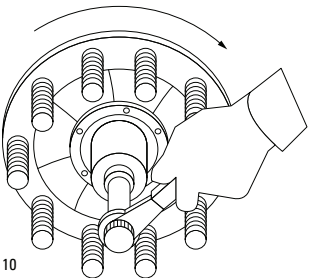

Figure 10
- 3.) Install the inner spindle nut and torque to 300 ft-lbs (see Figure 10).